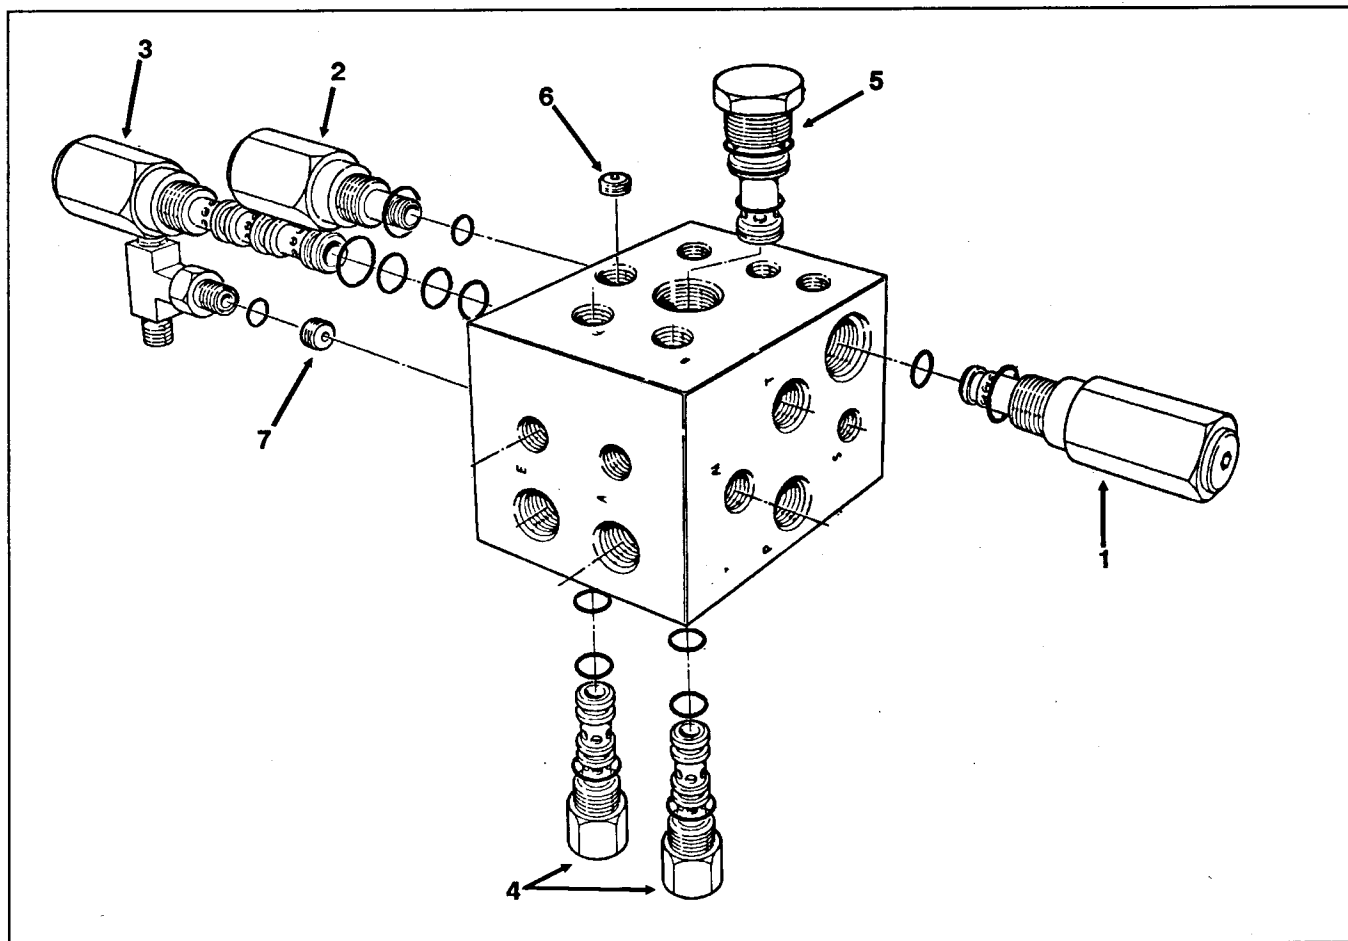

Figure 37
1. Remove affected cartridge (Fig. 37, 38). Inspect cartridge for sticking, plugged orifice, damage or wear and replace if necessary. It is recommended to replace seals when reinstalling a used cartridge.